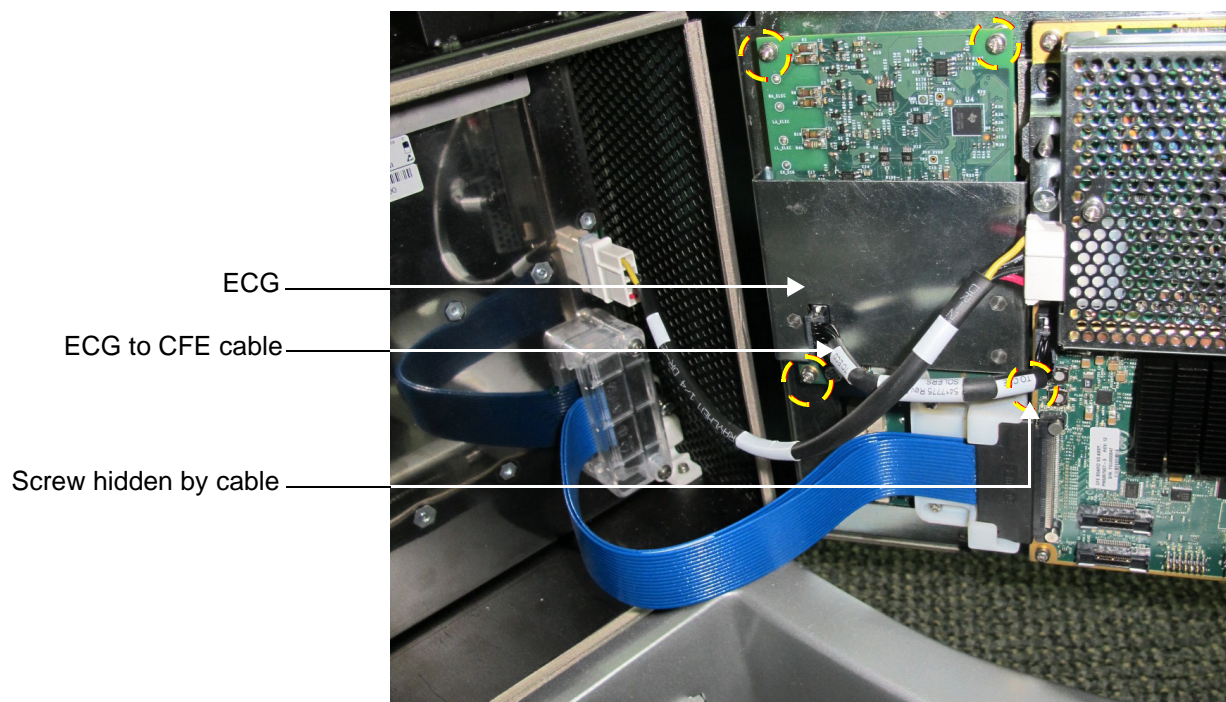

Figure 8-160 Location of ECG/Respiratory Module Assembly
NOTE: The location of the ECG/Respiratory Module Assembly is shown in Figure 8-160.
- 3) Disconnect the ECG-to-CFE cable - Figure 8-160.
- 4.) Loosen and remove the four screws that secure the ECG/Respiratory Module to the PSB board, as indicated in Figure 8-160.
- 1) Position the ECG/Respiratory Module assembly in the Front End door assembly as shown in Figure 8-160 and Figure 8-161.